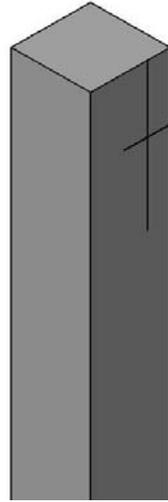

Fig. 13: Make layout lines marking the center of the mortise.
Step 3. Make layout lines on your stock that mark the center of the mortise. Fig 13 shows the completed layout lines on a leg blank before the mortise has been routed.